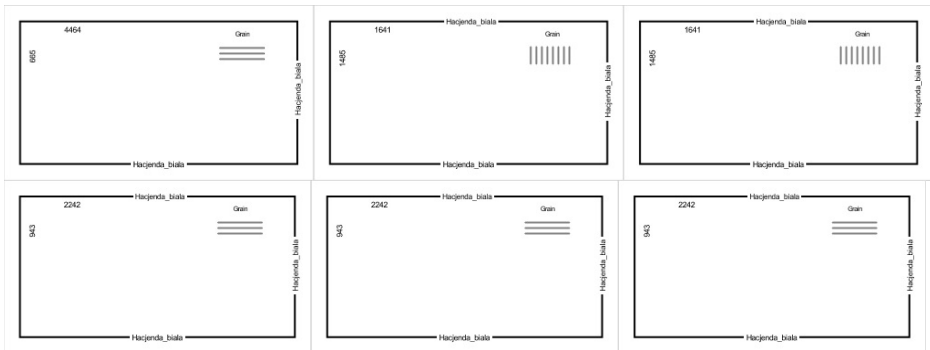
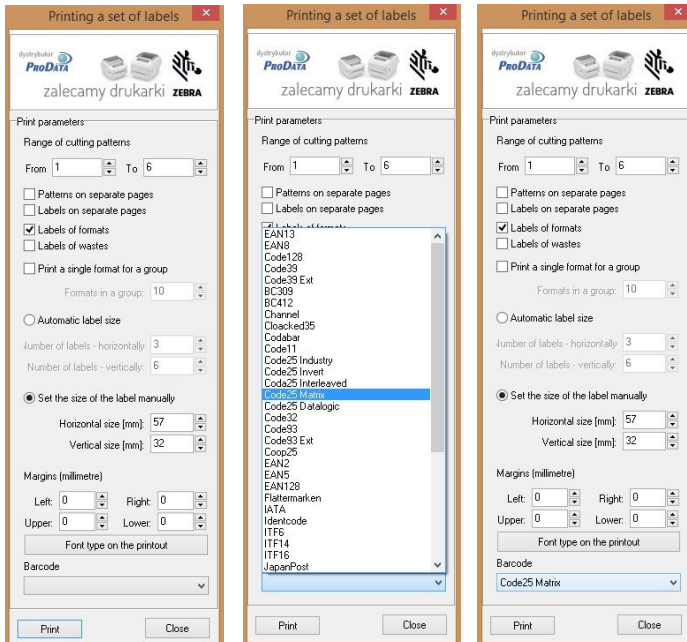

Fig. 91 – exemplary labels for formats
Fig. 92 – labels print options – bar code selection
- allows to print a set of labels for formats and wastes, with bar codes of various types. Exemplary labels are presented in Figure 91, and print options in Figure 92.